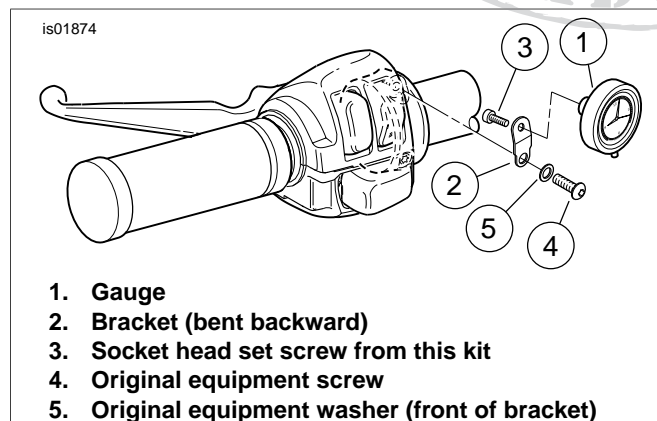
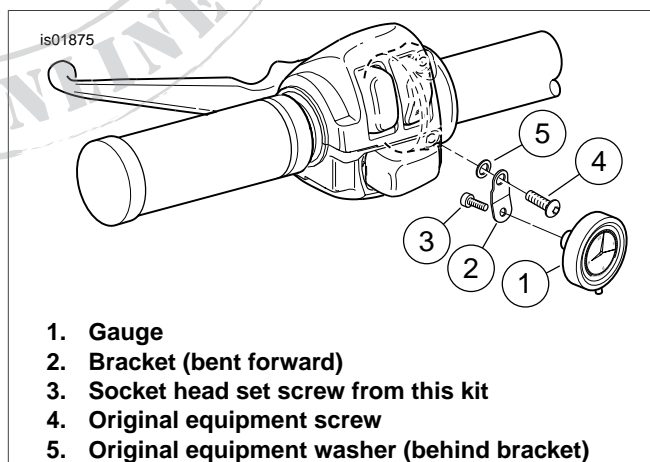

Figure 1. Gauge Bracket Mounted to Upper Screw (Left-Hand Shown)
Figure 2. Gauge Bracket Mounted to Lower Screw (Left-Hand Shown)
- See Figure 1 and Figure 2. Using a T27 TORX drive head, remove the desired screw (upper or lower) with flat washer securing the handlebar clamp to the hand lever bracket.